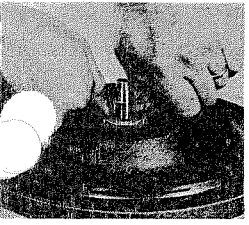

FIGURE 4
6. Insert new seal seat. For easy assembly coat OD of seal rubber (either a cup or an O-ring) with special grease provided in small container. Do not use any other oil or grease. Push seat all the way down into cavity. Seat must not be cocked relative to shaft. Be sure face of seal stays absolutely clean – wipe surface with soft, clean cloth if necessary. (see Figure 4)
- ◆ With 300°F system water and 90°F ambient, sump oil temperature is 190°F. maximum (refer to chart Fig. 4, page 5).